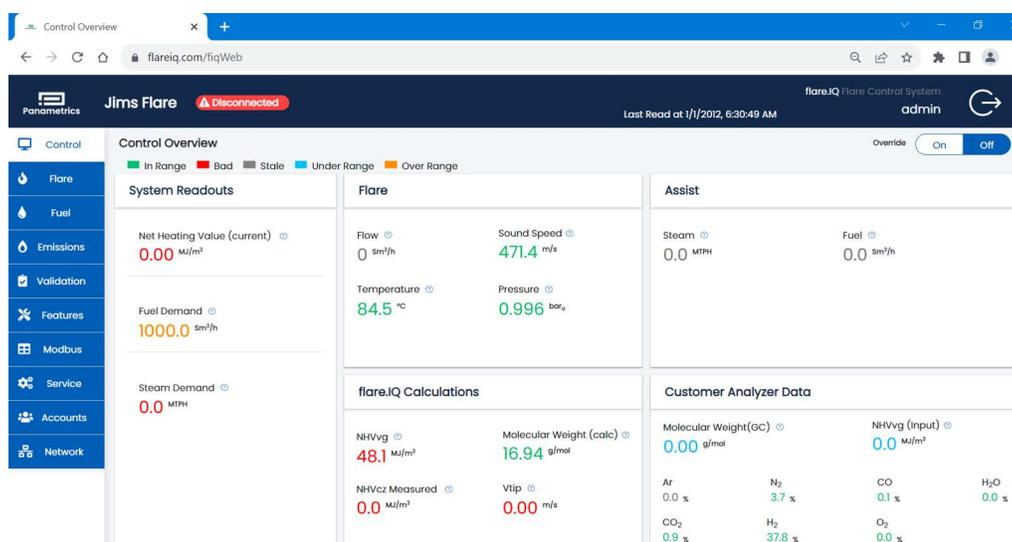

Figure 23: Control page with no Modbus connection
- **Disconnected** - The DCS or other Modbus master has not initiated a TCP session with the flare.IQ or has disconnected/closed the TCP session. A disconnect is assumed to have occurred if there is no traffic on the designated port for 30 seconds (Figure 23).